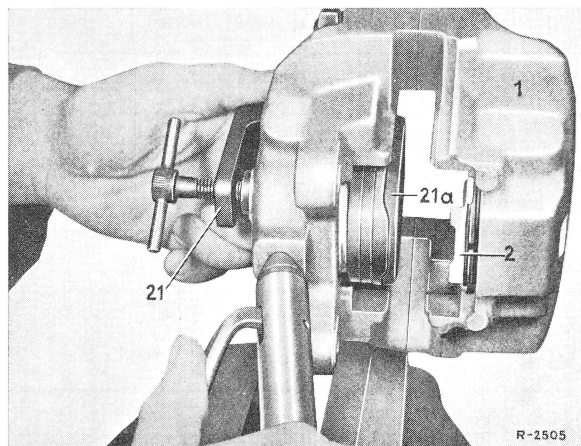

Fig. 6
**5** Position clamping fixture (21) in caliper (1) in such a manner that the rubber plate seals the bore. Then press second piston out of caliper (Fig. 6).